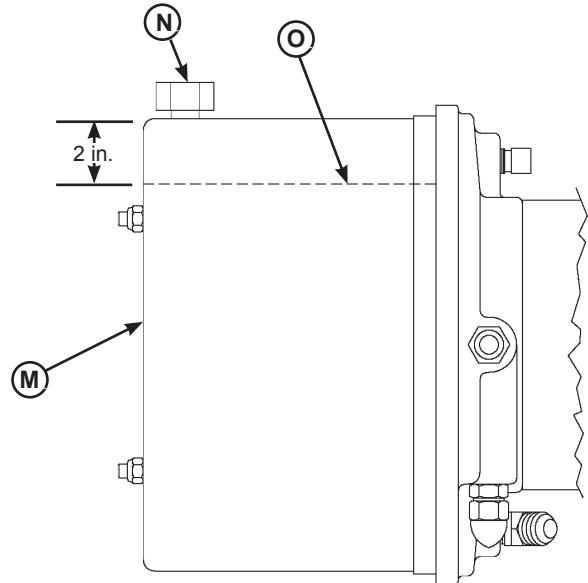

Figure 25
- Check reservoir fluid level (O, see Figure 25):
3. Remove inspection plate (C) and remove breather cap (N).
4. Measure fluid level. The fluid level should be approximately 2 in. (51 mm) from top of reservoir (M) with platform at the below-dock position.